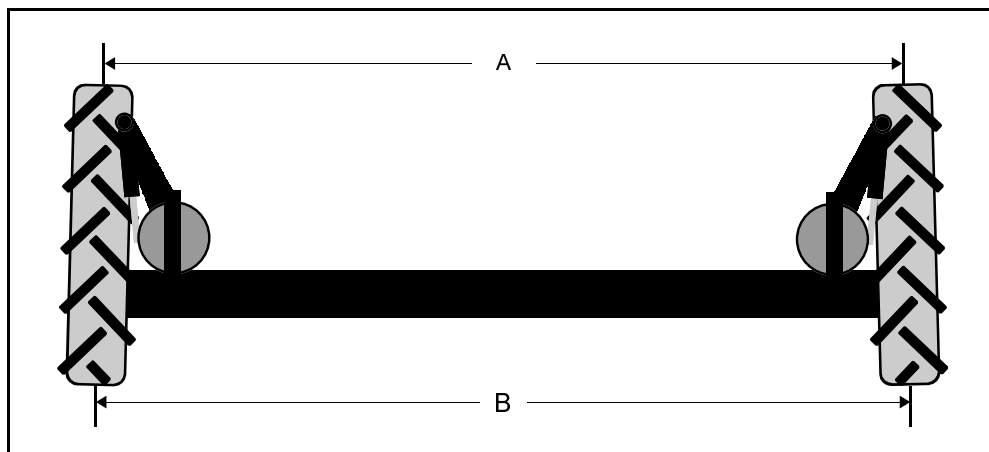

FIG 8.68
4. Move left and right tires evenly until difference in dimension "A" and "B" (fig. 8.68) are within specified range.